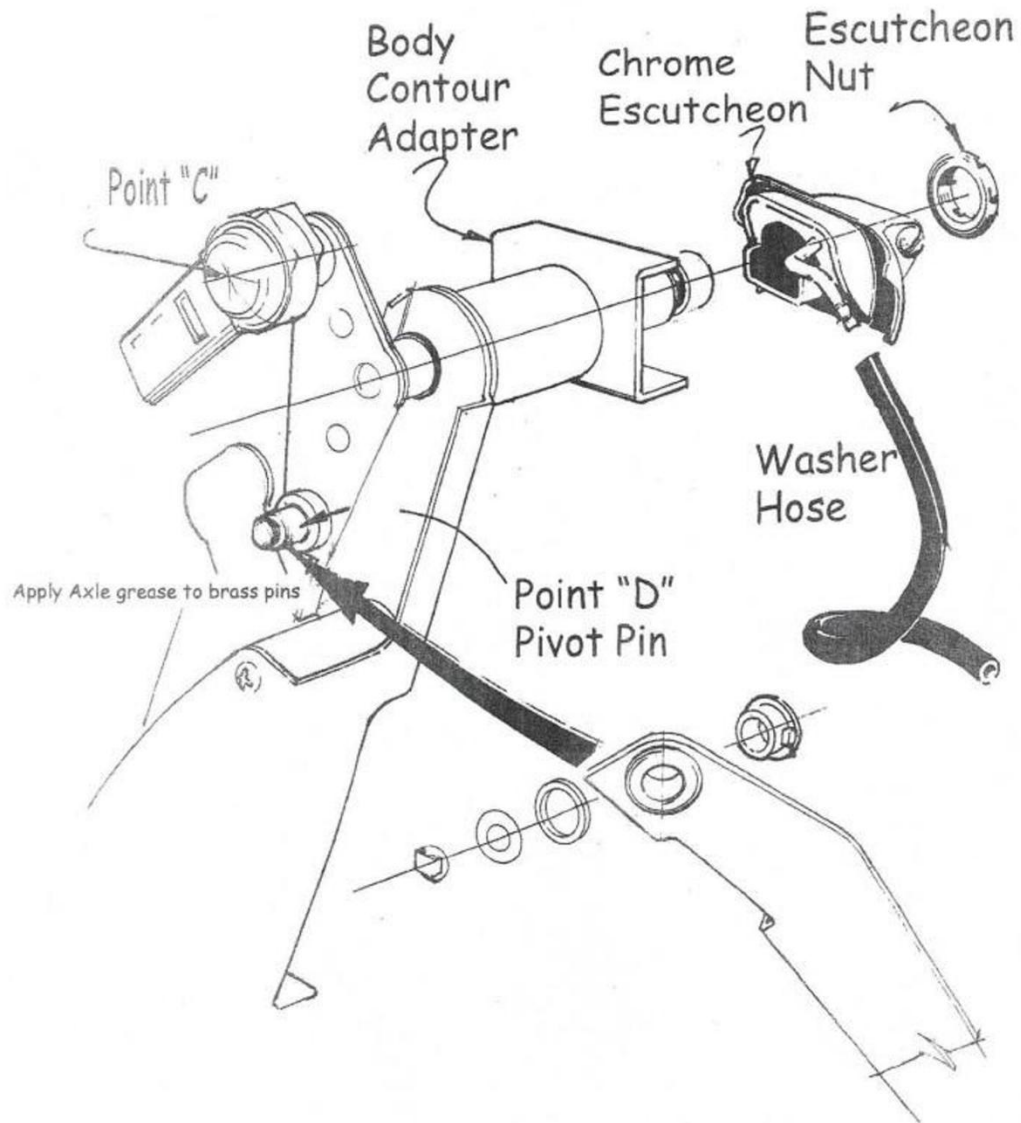

Figure 2 1953/54 Chevy Installation
- Using a thin washer and J-clip, attach the **longer** cross-link half to the right-hand pivot shaft. *(See Figures 2 & 5.)* Ensure the bushing rides freely on the drive pins. Use a $\frac{1}{4}$ ” **open-end wrench** to slide the clip into position.